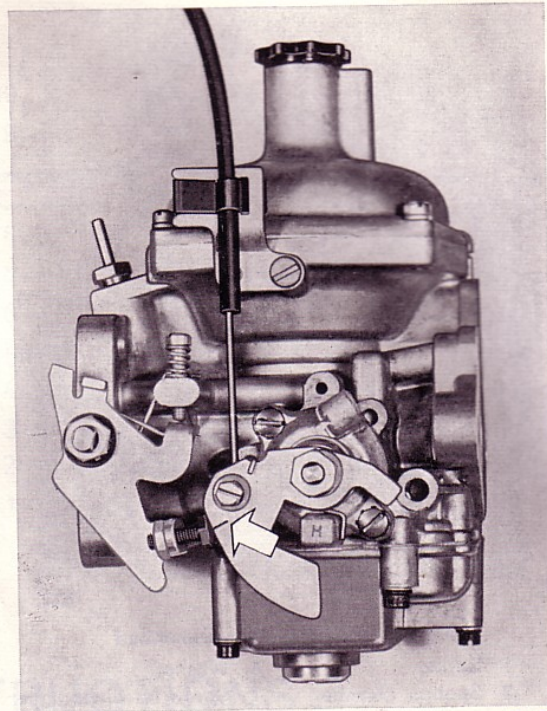

Fig. 97 Fast idle
6. Setting the fast idle: Pull out the choke 23–25 mm (almost 1") so that the mark on the rapid idle cam comes opposite the centreline of the rapid idle screw. See Fig. 97.
- Setting the fast idle: Pull out the choke control 23–25 mm (almost 1") so that the mark on the rapid idle cam comes opposite the centreline of the rapid idle screw. See Fig. 97. Then adjust the rapid idle screw to give an engine speed of 1100–1300 r.p.m.
6. Setting the fast idle: Pull out the choke control 23–25 mm (almost 1") so that the mark on the fast idle cam comes opposite the centreline of the fast idle screw. See Fig. 97. Then adjust the fast idle screw to give an engine speed of 1100–1300 r.p.m.
6. Setting the fast idle: Pull out the choke control 23–25 mm (almost 1") so that the mark on the fast idle cam comes opposite the centreline of the fast idle screw. See Fig. 97.